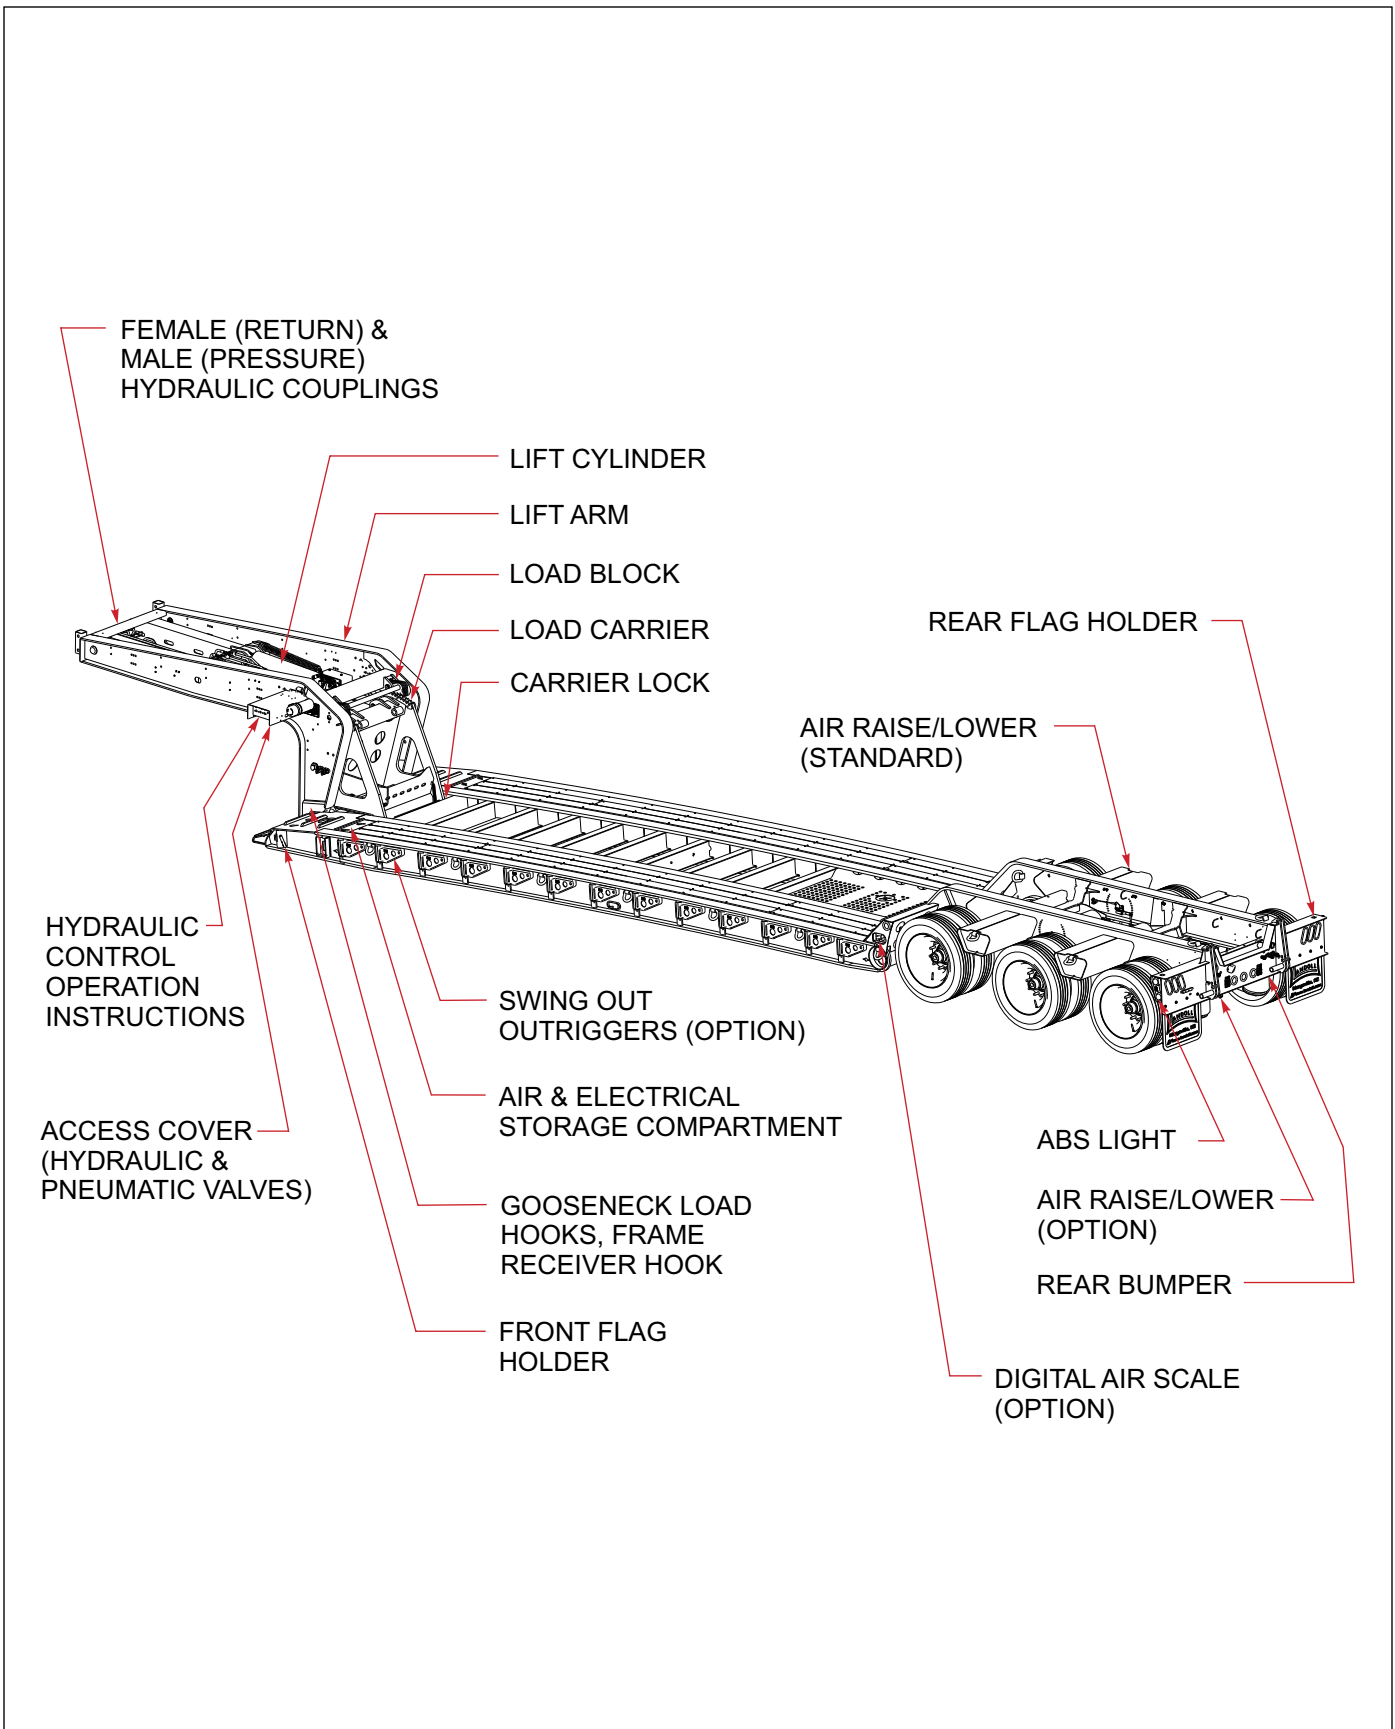

Figure 3-1: Trailer Terminology
This section supplies information for operation of the semitrailer. It describes and locates controls and gives general operation procedures. Read all instructions, warnings, cautions, and danger notes before attempting to operate the semitrailer. Operators must have proper training before operating the semitrailer. (See Figure 3-1 for location of semitrailer parts.)
3. Before moving the trailer, activate the **TRAILER LIFT lever** “DOWN” until the semitrailer load carrier rests completely on the load blocks (See Figure 3-1 and See Table 3-1.)
The **TRAILER LIFT Lever** is located on the driver's side of the gooseneck assembly (**See Figures 3-1 and 3-3.**) It is the middle lever and has three positions: